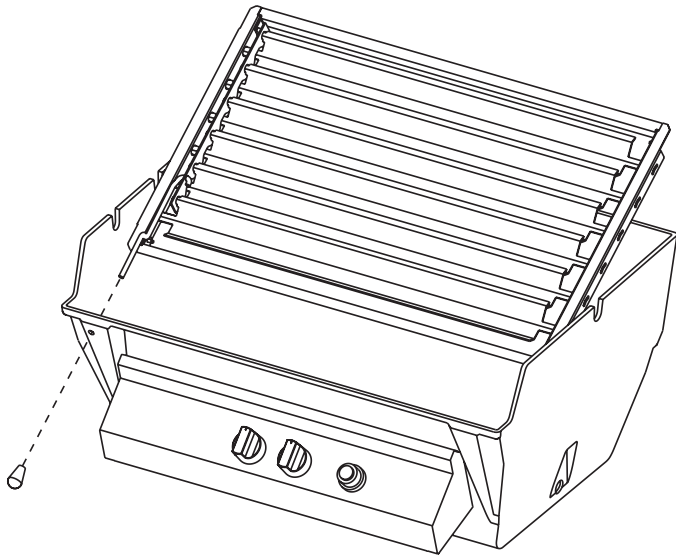

Figure 4
12. Grasp center of one shutter with your right hand, Grasp actuator rod with your left hand. Pivot smoker shutter assembly into grill body bottom as you insert actuator rod through 5/16" hole that you drilled. Refer to Figure 4. The 9" actuator rod will also be inserted through front panel on the grill surround.